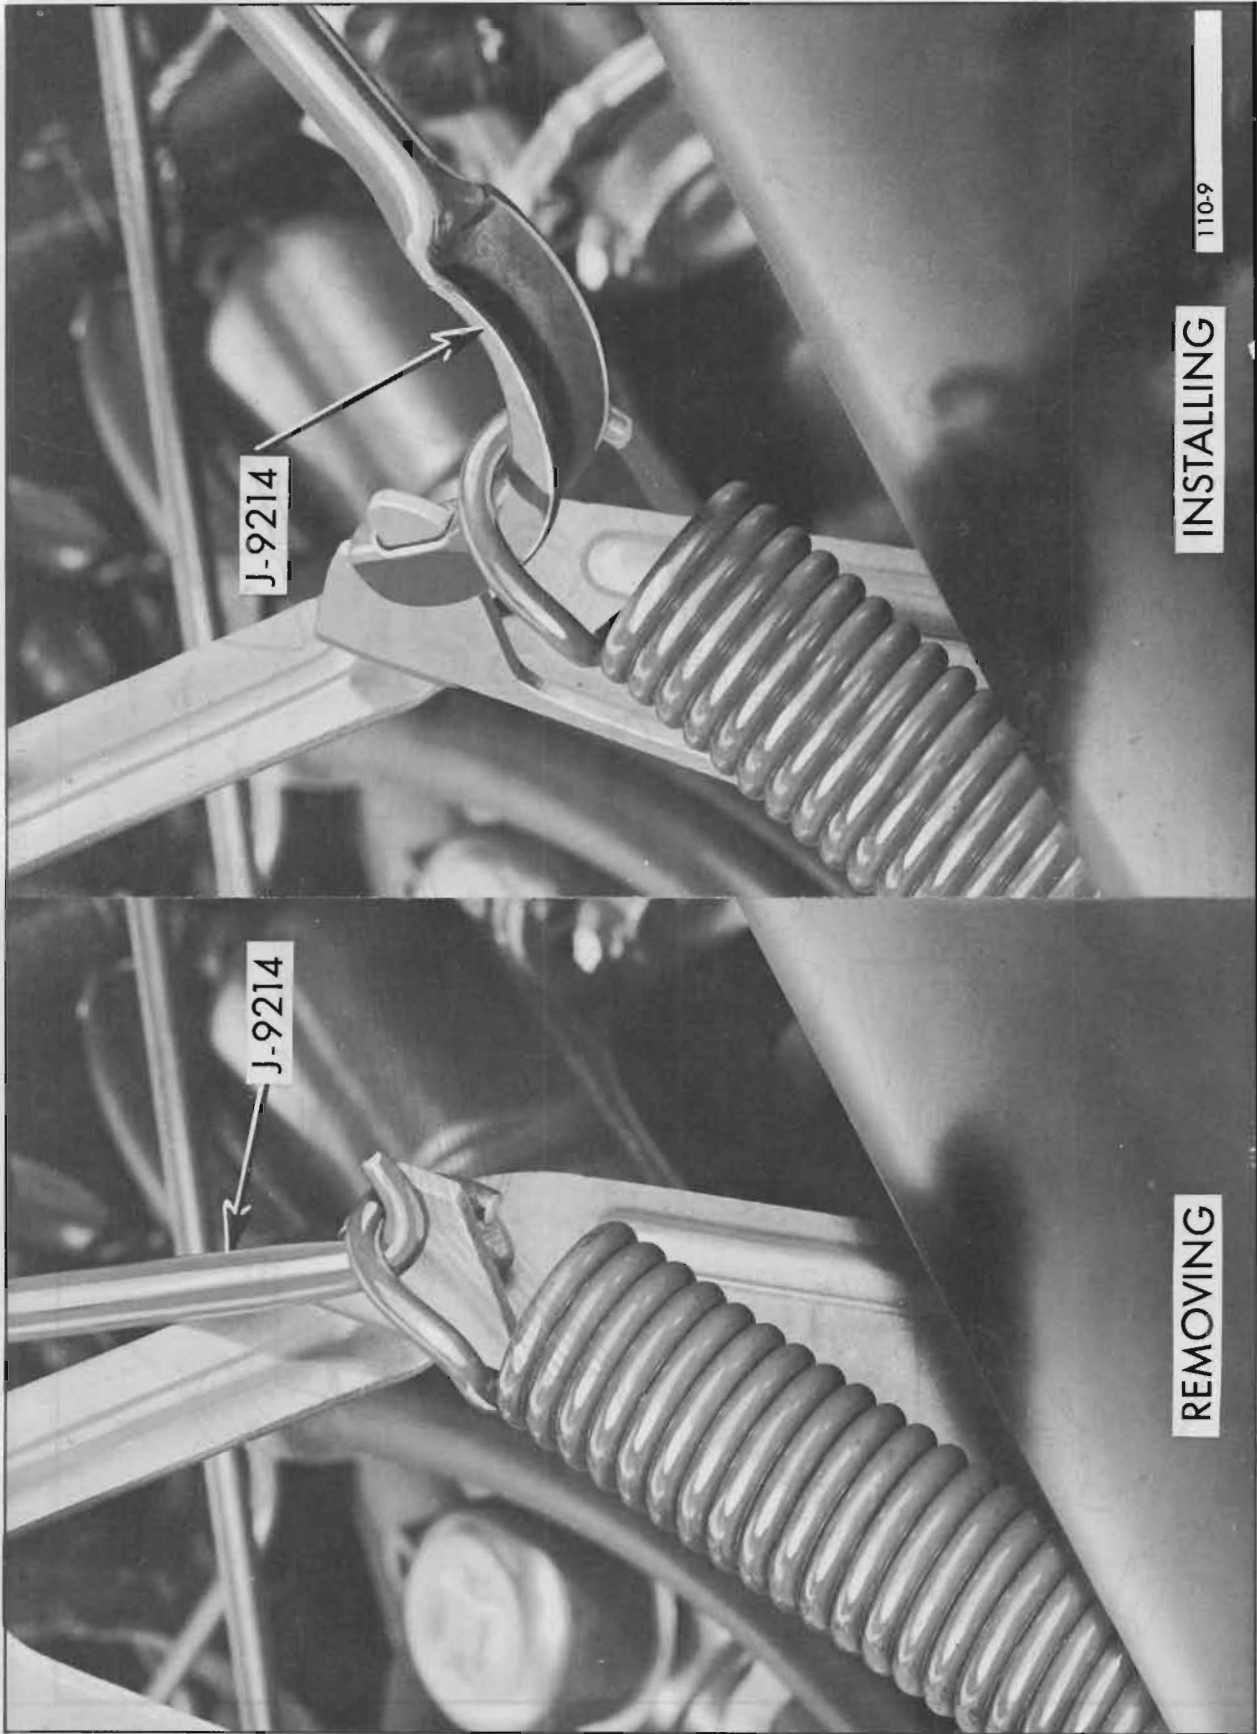

Figure 110-11 43-44000 Hood Hinge Spring
1. To remove hood hinge spring, insert Remover and Installer J-9214 through loop in forward end of spring with bend of tool approximately one inch from loop. Using inside corner formed by hinge as a pivot, unseat spring from notch. See Figure 110-11.